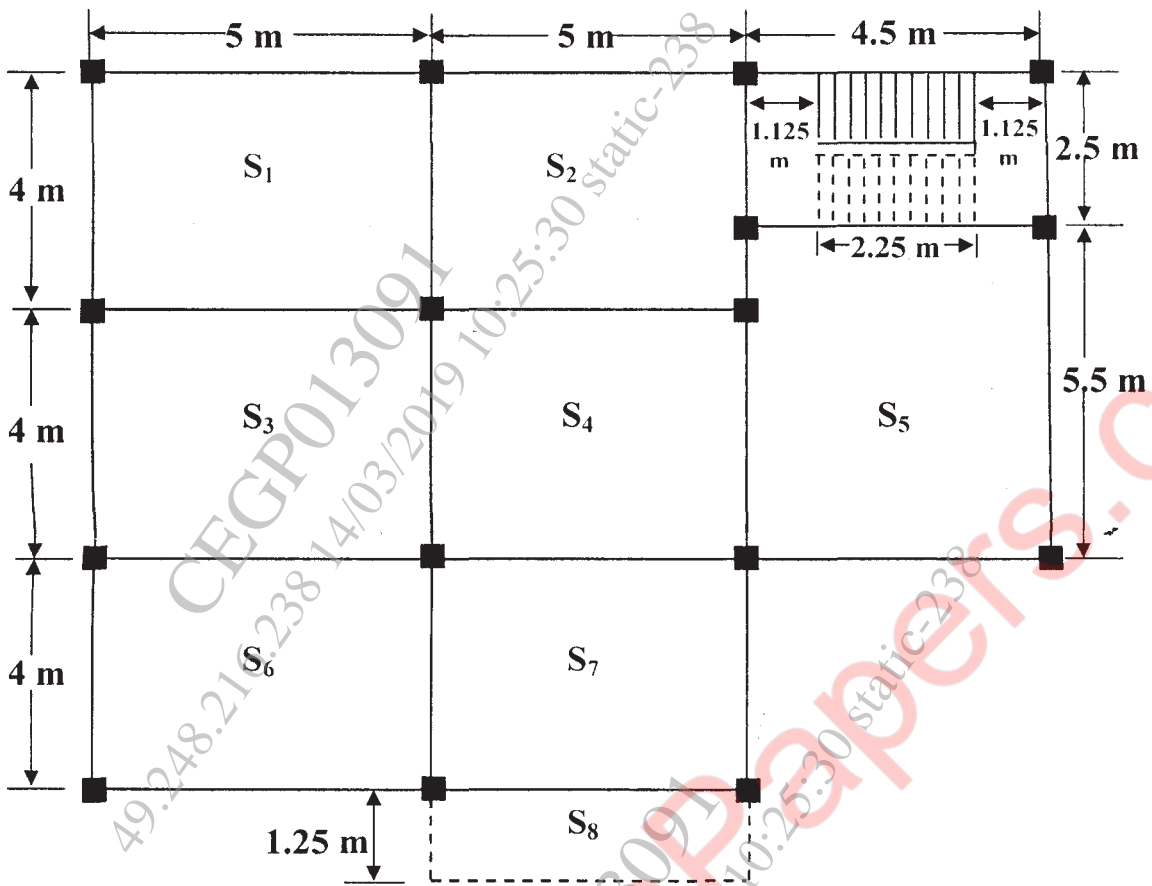

Figure 1: Centre line plan of G+2 Building
- b) The central line plan of building is as shown in Fig. 1. Design a cantilever slab S_8 only for flexure by LSM. Draw neat sketches showing details of reinforcement. Take live load = 4 kN/m²; Floor finish = 1.5 kN/m²; Materials: M25 grade of concrete; Fe500 grade of reinforcement. [7]
- Q5)** Referring to central line plan of building (Fig. 1), design the slab S_1 only for flexure by L.S.M. Draw neat sketches showing details of reinforcement. Take: Live load = 4 kN/m²; Floor finish = 1.5 kN/m²; Materials: M25 grade of concrete; Fe 500 grade of reinforcement. [10]
- Q6)** Design the first flight of a dog-legged staircase as shown in Fig. 1 [10]